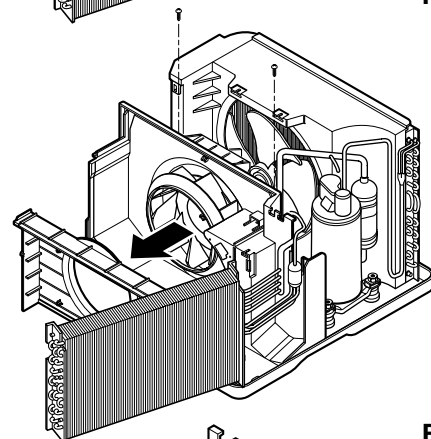

Figure 19
10. Pull out the hook of orifice by pushing the tabs and remove it. (See Figure 19)